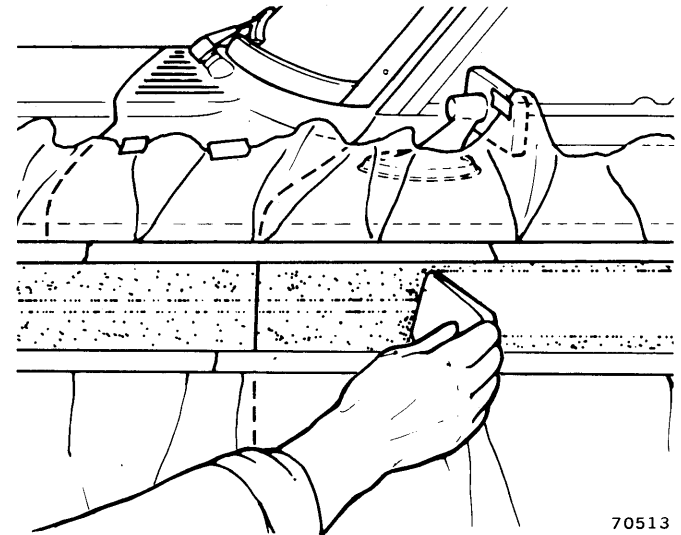

Fig. 20-13 Using Squeegee to Remove Adhesive Residue
(9) After decal is removed, spray panel again with 3M Adhesive Remover or equivalent to remove any remaining adhesive. Use a slow spray application and apply in a uniform criss-cross pattern to obtain a heavy coat.
(10) After five minutes, use squeegee to remove adhesive residue (fig. 20-13).
(11) Remove masking tape and paper.
(12) Wash entire panel with 3M General Purpose Adhesive Cleaner or equivalent. If any spots of adhesive remain on panel, hard rubbing during the washdown will remove them.